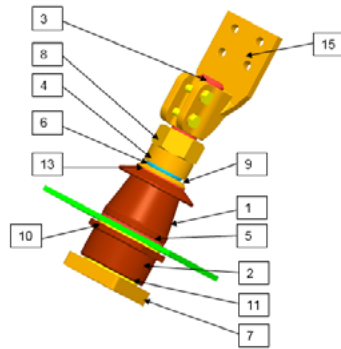

Figure 5
- The bolt with lower washer (3) must be installed as pictures in figure 5 (the lower insulation (2) with gaskets (11) and (10) ensemble with the bolt), through the hole of the tank.
- Assembly the components: (5), (1), (13), (9), (6), (4), (8) and once the insulator bushing is full of oil, the air inside must be removed unscrewing the nut (8) and finally the rated torque shall be applied to the upper nut (see table 18).